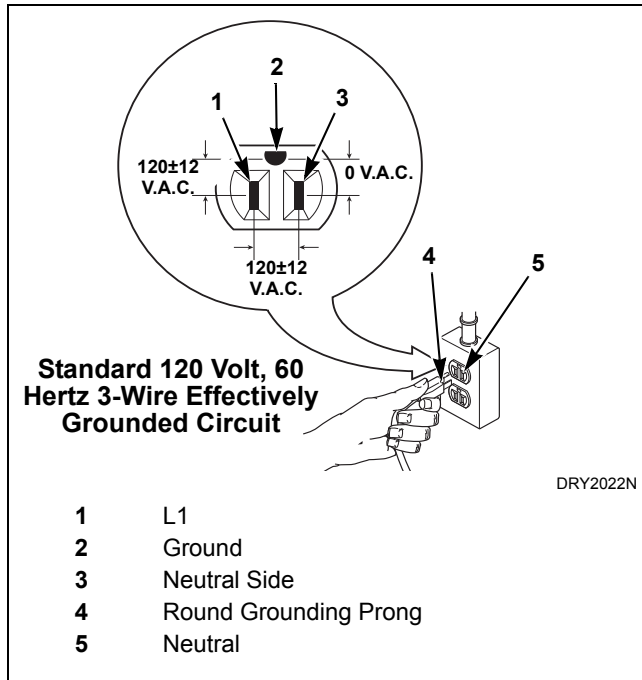

Figure 31
The three-prong grounding plug on the power cord should be plugged directly into a polarized three-slot effectively grounded receptacle rated 110/120 Volts AC (alternating current) 15 Amps. Refer to *Figure 31* to determine correct polarity of the wall receptacle.
**NOTE:** Have a qualified electrician check the polarity of the wall receptacle. If a voltage reading is measured other than that in *Figure 31*, the qualified electrician should correct the problem.